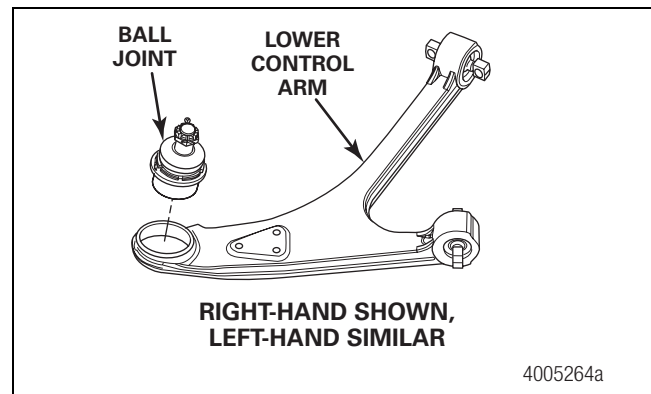

Figure 5.12
3. Place the lower control arm into a suitable holding fixture with the ball joint stud facing UP. Figure 5.12.